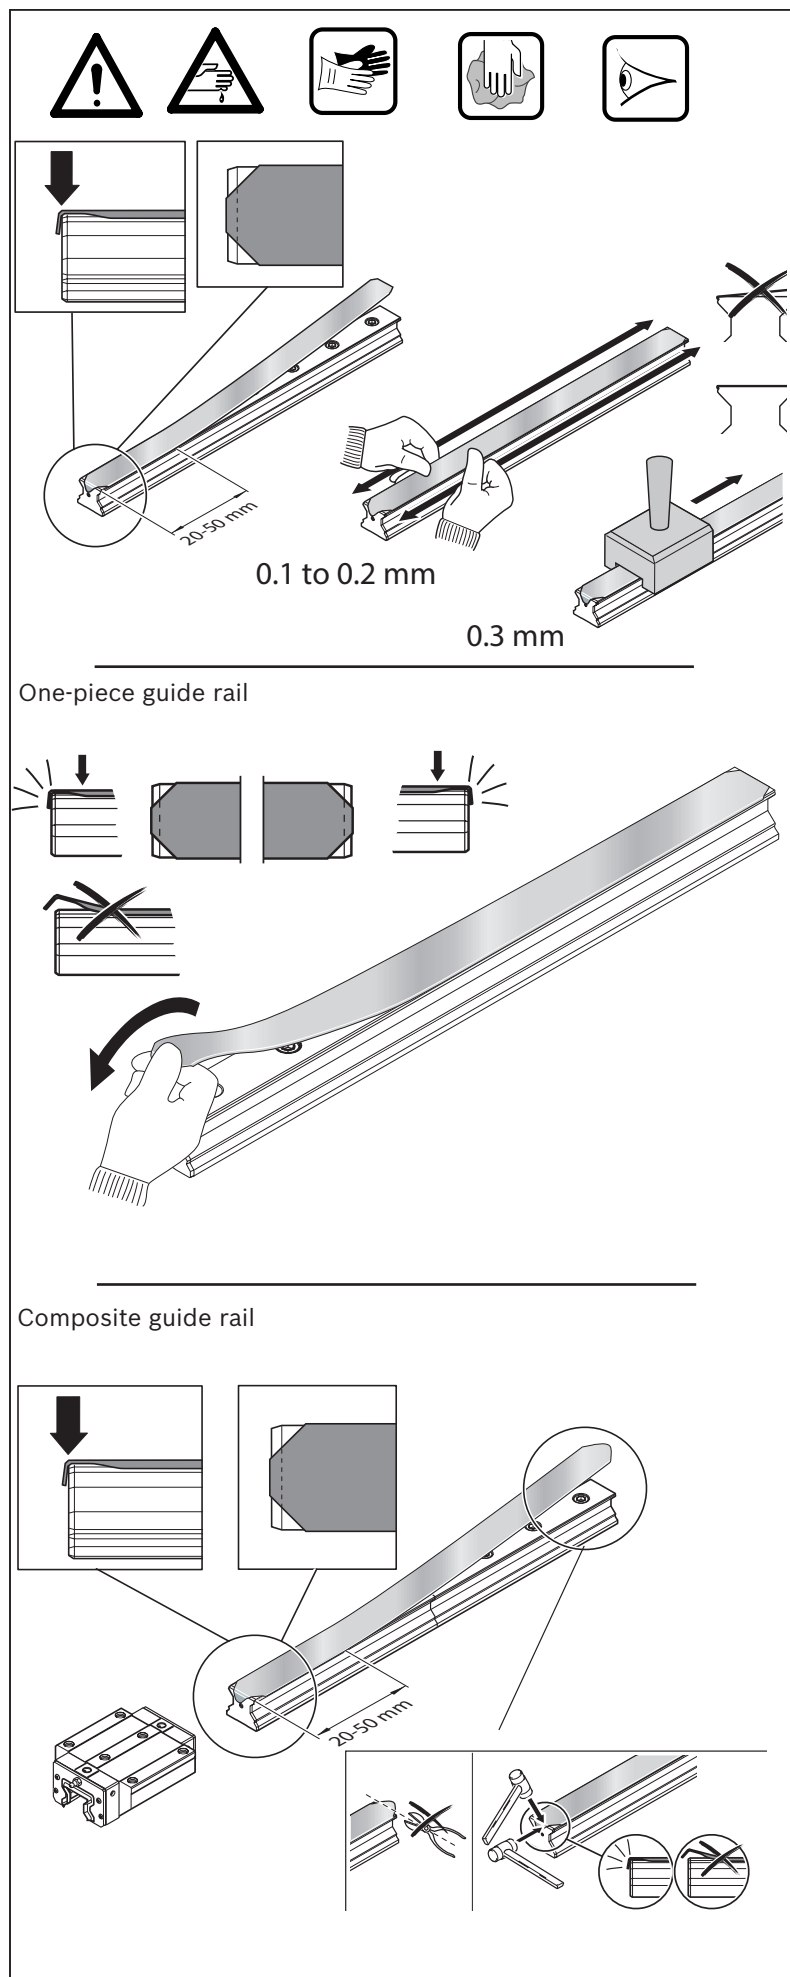

Fig. 35: Mounting Rail Seal
- ▶ If necessary, shorten the end of the seal just enough to expose the tapped hole on the rail end face! ➡ Fig. 35